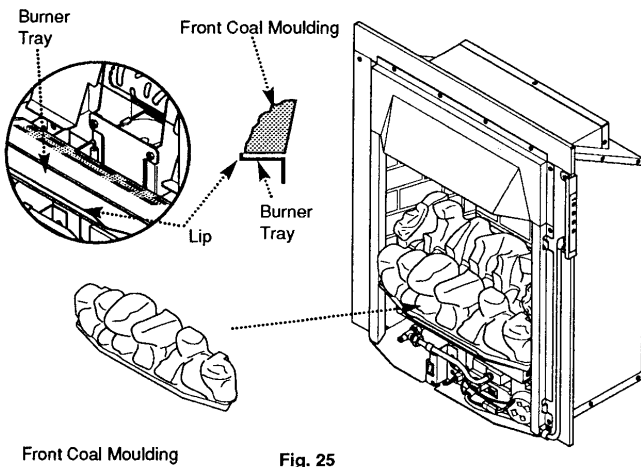

Fig. 25
3. Carefully position the front coal moulding on the front part of the burner tray with the front edge of the moulding behind the lip. The rear edge of the moulding should then rest on the front of the burner. The front and rear coal mouldings should be touching each other at both sides of the firebed (Fig. 25).